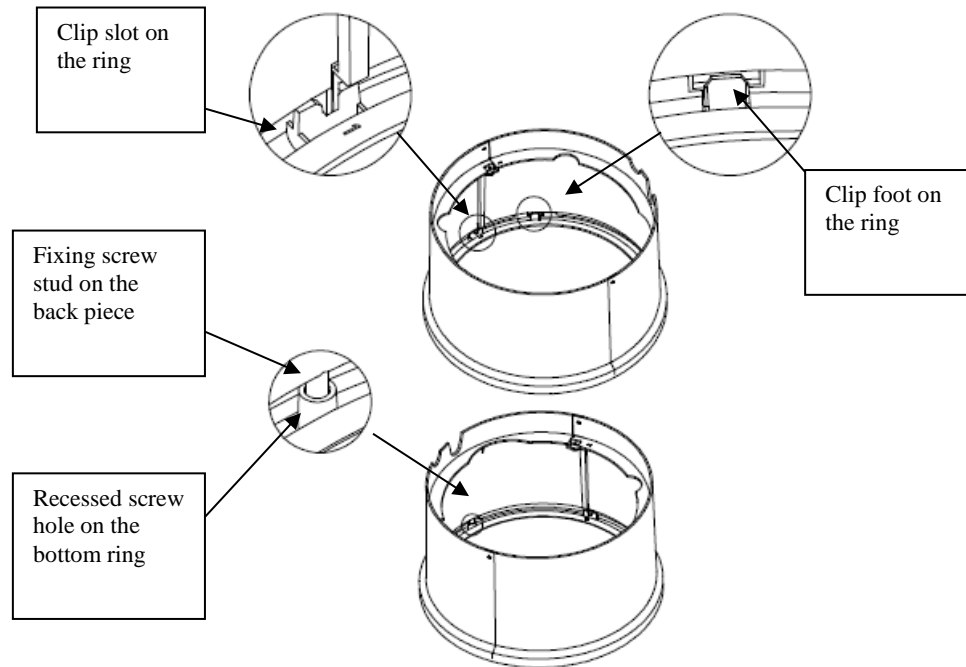

Fig 2b
- b) Be sure that both the clips on each side of the platform and the screw holes align correctly before inserting the clips in their respective slots on the stability ring as shown in Fig 2b.
- c) Once you have assembled both the platform and stability ring together, using the screws (2 short) provided firmly secure the stability ring to the platform as shown in Fig 2b and Fig 2c.